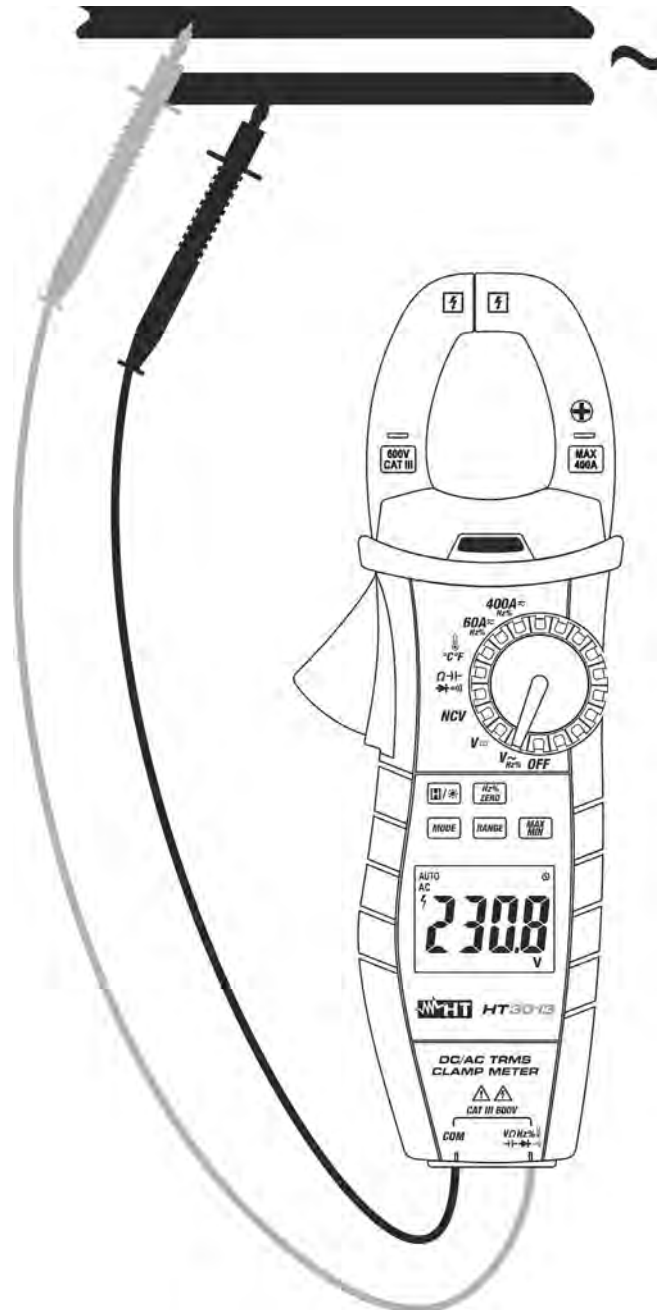

Fig. 5: Use of the instrument for AC Voltage measurement
3. Position the test leads in the desired points of the circuit to be measured (see Fig. 5). The display shows the value of voltage.